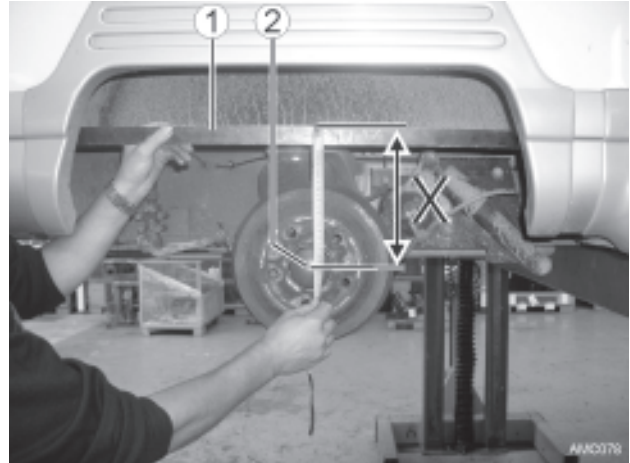

Fig. 20
13. Lay swing arm underneath, until the dimension "X" (Fig 20) is reached.
Dimension "X". Top edge frame (Fig 20 - 1) -
Stub axle centre point (Fig 20 - 2)